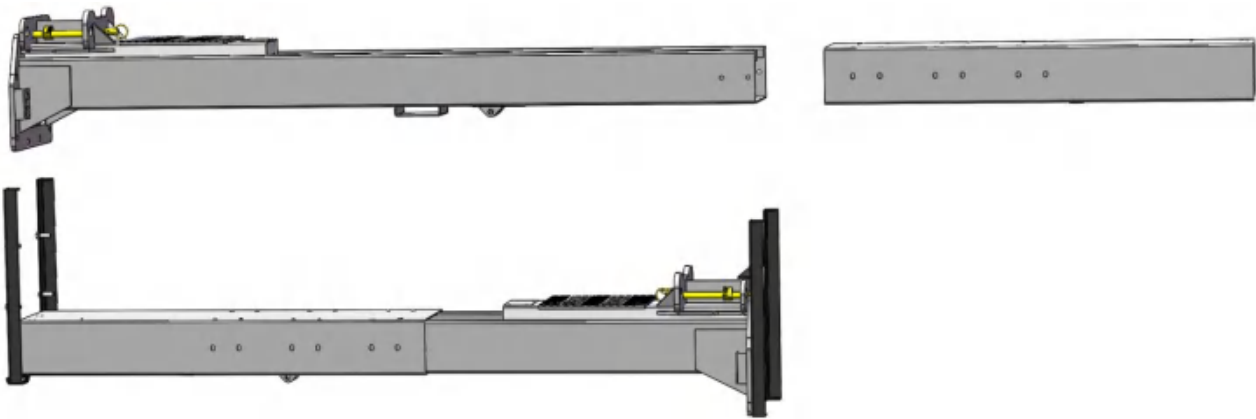

Fig. 13
4. Lift the upper column with a fork lift or hoist, loose the upper bolts of the package bracket, then take out the outer column and parts inside the column. **(See Fig. 13)**